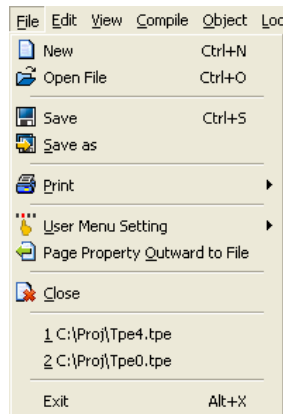

Figure 2-7 Menu bar—File
- **File:** It is used to access a file, as shown in Figure 2-7. Please refer to section 3.1 for more information.